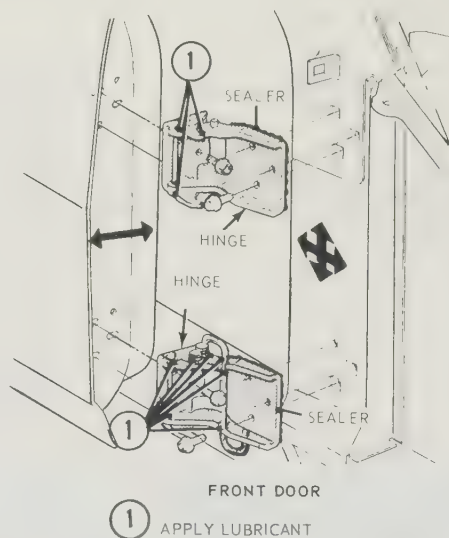

Fig. 12.1. Front door hinge assembly (Sec. 9)
- 2 Undo and remove the three bolts that secure the hinge(s) to the body and lift away the hinge(s). (Fig. 12.1).